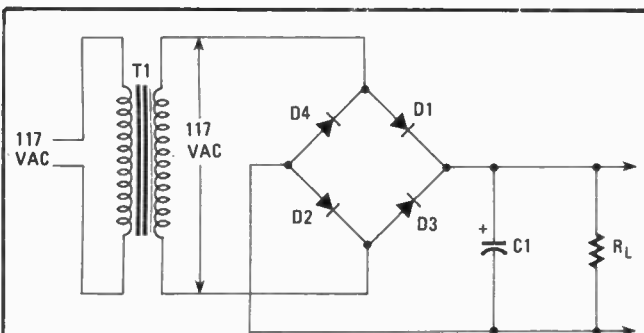

FIG. 5—CAPACITOR C1 provides ripple voltage filtering so that  $R_L$  always has a DC voltage across it. Refer to text for discussion on PIV rating of C1.
The pulsating DC produced by a bridge rectifier is not usable in most electronic circuits. To produce nearly pure DC from the rectifier output a filter must be used. The simplest form of filter is a single capacitor in parallel across the load resistor. See Fig. 5. The operation of filters will be discussed shortly, but included here, because the filter capacitor affects rectifier ratings which is our real topic. For now, let's be content with the fact that the filter capacitor (C1) is charged to the peak of the AC waveform. That means that the bridge rectifier's output voltage under no load is  $1.414 \times \text{volts}_{rms}$ . It comes to 165.4-volts DC from a line isolation transformer T1 delivering 117-volts AC.
Some designers fail to recognize the true reverse-bias voltage in a filtered power supply. On one half-cycle, the diode will be forward-biased and current flows. On that half-cycle, the filter capacitor (C1 in Fig. 5) charges to peak positive voltage (i.e.  $1.414 \times rms$ ). That voltage charge remains on C1. On the next half-cycle, the AC voltage reverse-biases the rectifier to the peak negative voltage (again,  $1.414 \times rms$ ). That potential is added to the capacitor voltage to make the actual PIV twice normal peak voltage (i.e.  $2 \times 1.414 rms = 2.83 rms$ ; or approximately 320.8 PIV). It would be wise to use diodes in the bridge circuit rated at a standard value of 400 PIV.
The simplest form of filter is a single capacitor connected in parallel with the rectifier output and the load. Such a filter is called a *brute-force* filter. An example is shown in Fig. 5.
Normally, we will have a ripple-factor percentage in mind as a design goal, and the load resistance is set by other requirements. We will want to rearrange Eqs. (6) and (7) to find the minimum value of capacitance (C1 in Fig. 5) required to do the job. Also, we will want our result in microfarads ( $\mu F$ ), not Farads. To accomplish those goals we can rewrite Eqs. (6) and (7) into a final form:
Equations (8) and (9) are valid for power supplies using brute force filtering as diagrammed in Fig. 5 and operating from 60 Hz AC power lines. On 50-Hz power systems, increase the value of C1 by approximately 20 percent.
The filtering action has the effect of raising the average output voltage. The voltage produced by Fig. 5 will be as follows: